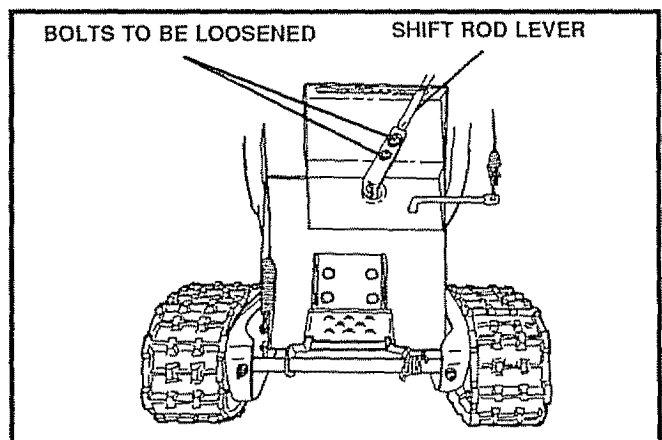

FIG. 30
- Loosen the bolts in the shift rod lever (See Fig. 30). Move the friction wheel to the proper position as indicated above.